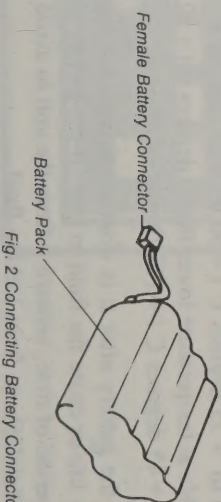

Fig. 2 Connecting Battery Connector
3. Connect the 3-pin female battery power connector to the matching male connector provided on the top side of battery compartment. Do not attempt to force the connector onto the pin, it will slip on easily when it is properly aligned. Refer to Fig. 2.
IMPORTANT: IF ANY PROBLEMS OCCUR DURING OPERATION, THE UNIT MAY BE RESET USING THE RESET SWITCH (FIGURE 2.) TO RESET, SIMPLY SLIDE THE SWITCH TO THE RESET POSITION (RIGHT) FOR APPROXIMATELY 15 SECONDS, THEN RETURN THE SWITCH TO THE NORMAL POSITION (LEFT).